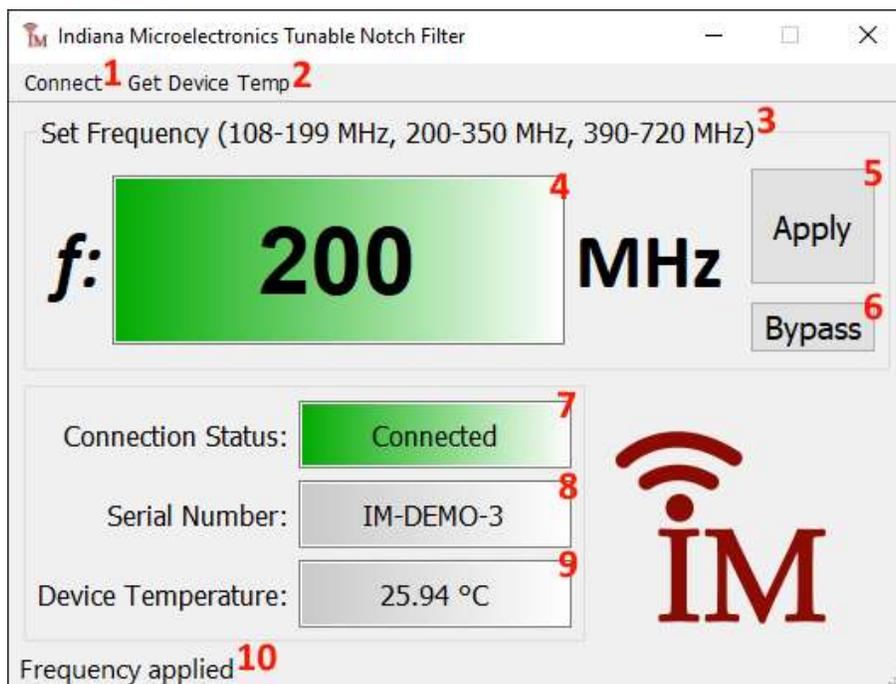

Figure 14. Tunable Notch Filter Control Software
The IM Notch filter Demo unit is provided with control software for ease of testing. To run, connect the filter and the provided USB thumb drive to the same Windows machine. Launch *TunableNotchFilter.exe*. The user interface is detailed below in Figure 14 and Figure 15:
1. Some devices have multiple ranges of valid tune states. Values between listed ranges are invalid (e.g., 375 MHz in the Figure 14 example). Bounds of listed ranges are inclusive.